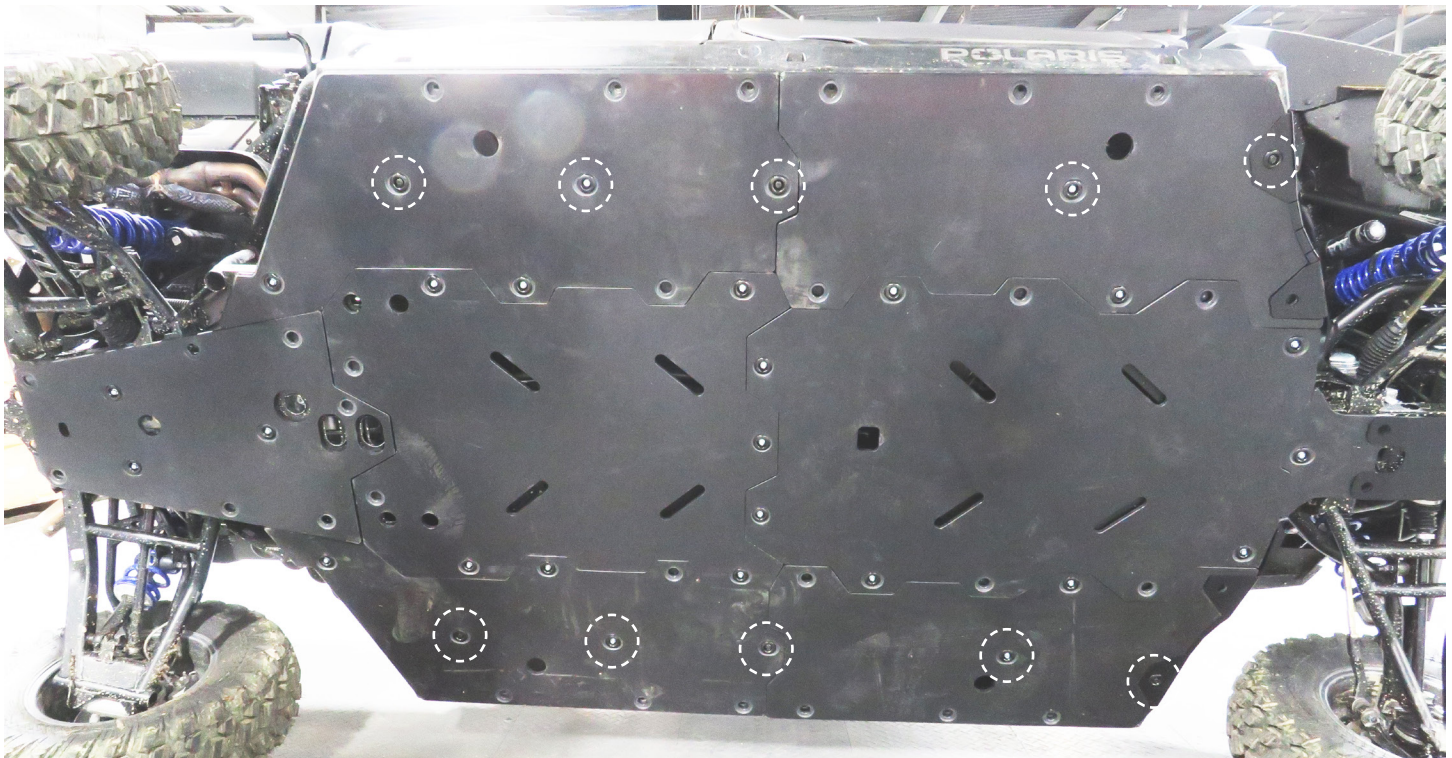

Fig.18
18. **Fig.18** below shows the locations of where the Spacers, **Item "H"**, will be used circled in White. The rest of the holes will need to be drilled first, then screwed down.